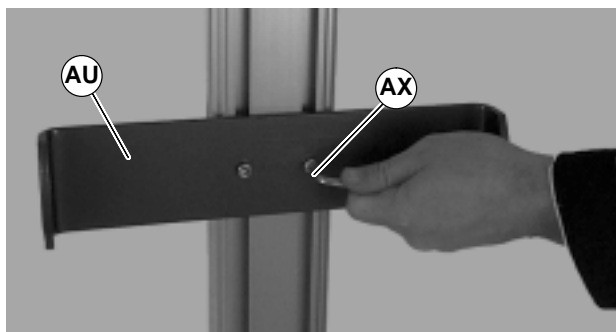

Figure 36
3. Attach brace bracket (AU of Figure 36) with M6 screws (AX). Tighten screws 9 Nm.